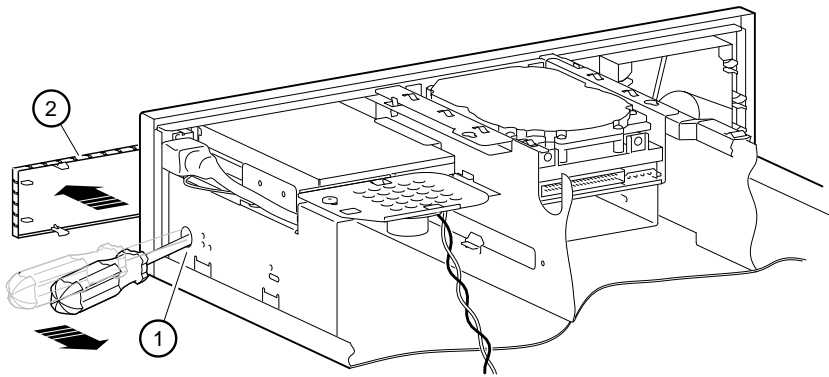

Figure 3-18. Removing Storage Bay Blank Panel
1. Insert a screwdriver ① through the access port and gently pry the blank panel ② out, as Figure 3-18 shows.